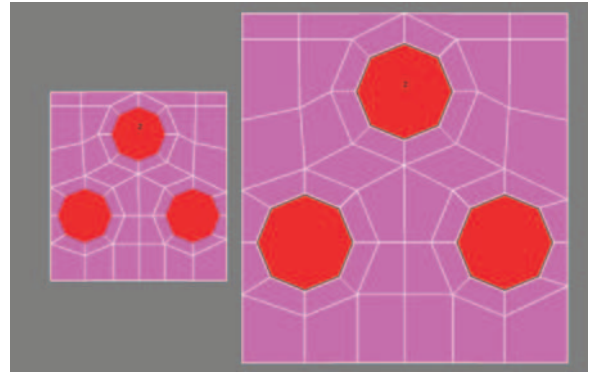

Figure 5.18 Detached elements before and after scaling locally.
19. Click on the Outline settings button in the Edit Polygons rollout. Use a negative value for the outline amount to achieve a result similar to the one seen in Figure 5.18. With the last few steps we derived new geometry (keys or buttons) from existing geometry (faceplate) with a great deal of precision. The nice thing about